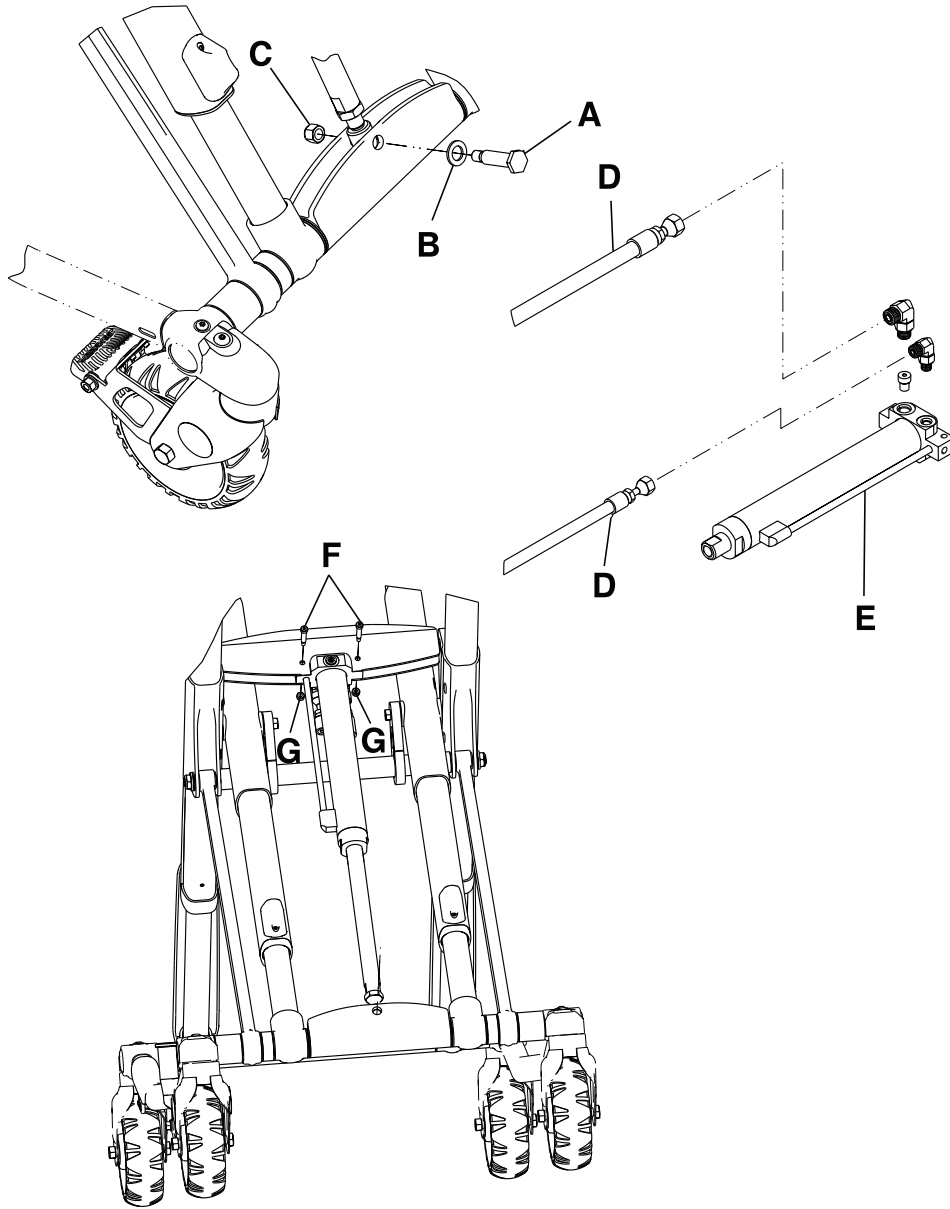

Figure 15: Hydraulic cylinder replacement
3. Using a 3/4" and 9/16" combination wrench, remove the rod attachment pin (A), washer (B), and Nylock hex nut (C) that secure the hydraulic cylinder to the base. (Figure 15 on page 42).
5. Using an 11/16" combination wrench and a 13/16" combination wrench, remove both hoses (D) from the hydraulic cylinder (E). (Figure 15 on page 42).
7. Using a 1/8" hex wrench and 3/8" combination wrench, remove the two socket head set screws (F) and Fiberlock hex nuts (G) that secure the hydraulic cylinder to the base. (Figure 15 on page 42).